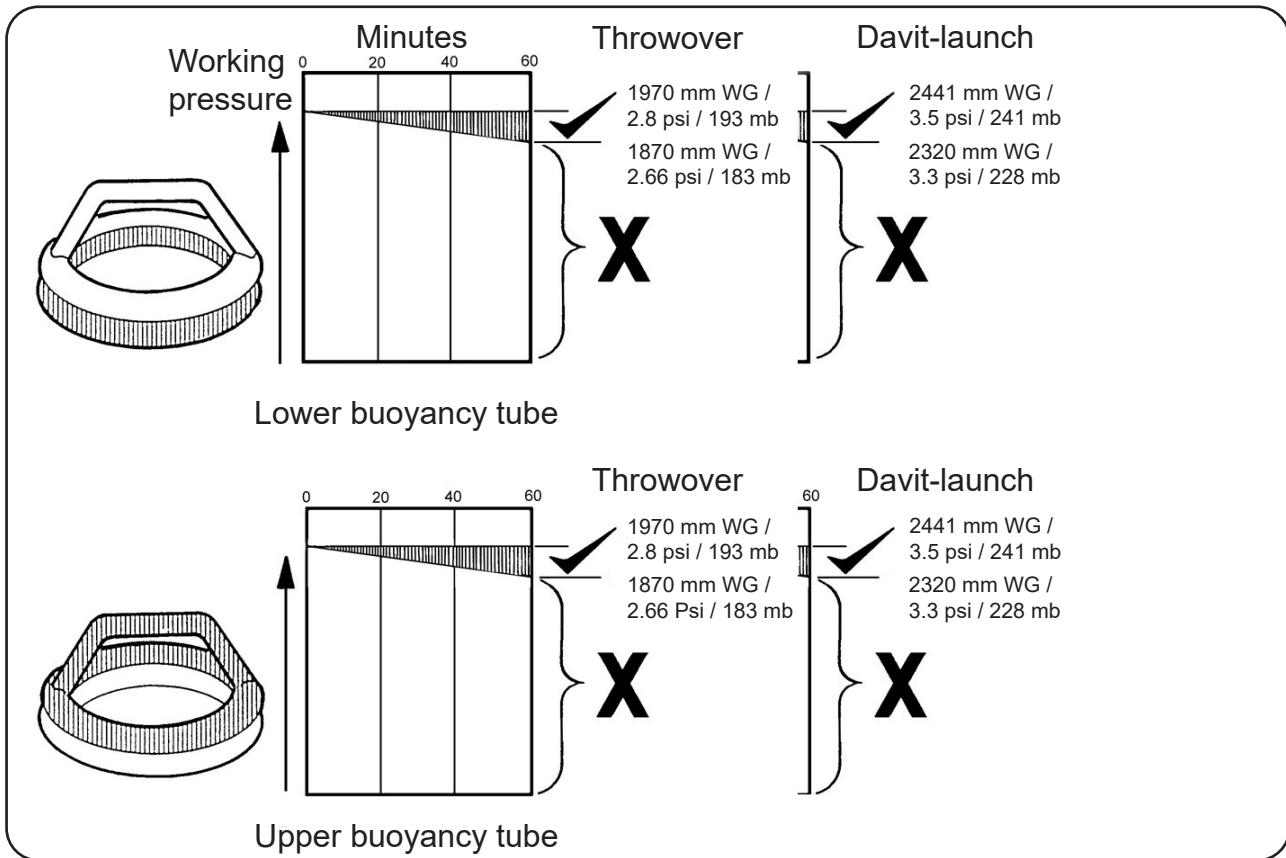

FIGURE 503
3.5.1 For each inflatable compartment defined in this chapter section 3.1, carry out a WP test as follows. Refer to FIGURE 503:
- (f) Leave the pressure in the compartments for an additional 60 minutes. Refer to FIGURE 503. If the inflation pressure, corrected for temperature and barometric changes, decreases by more than 5% of the noted pressure, the liferaft fails this test.